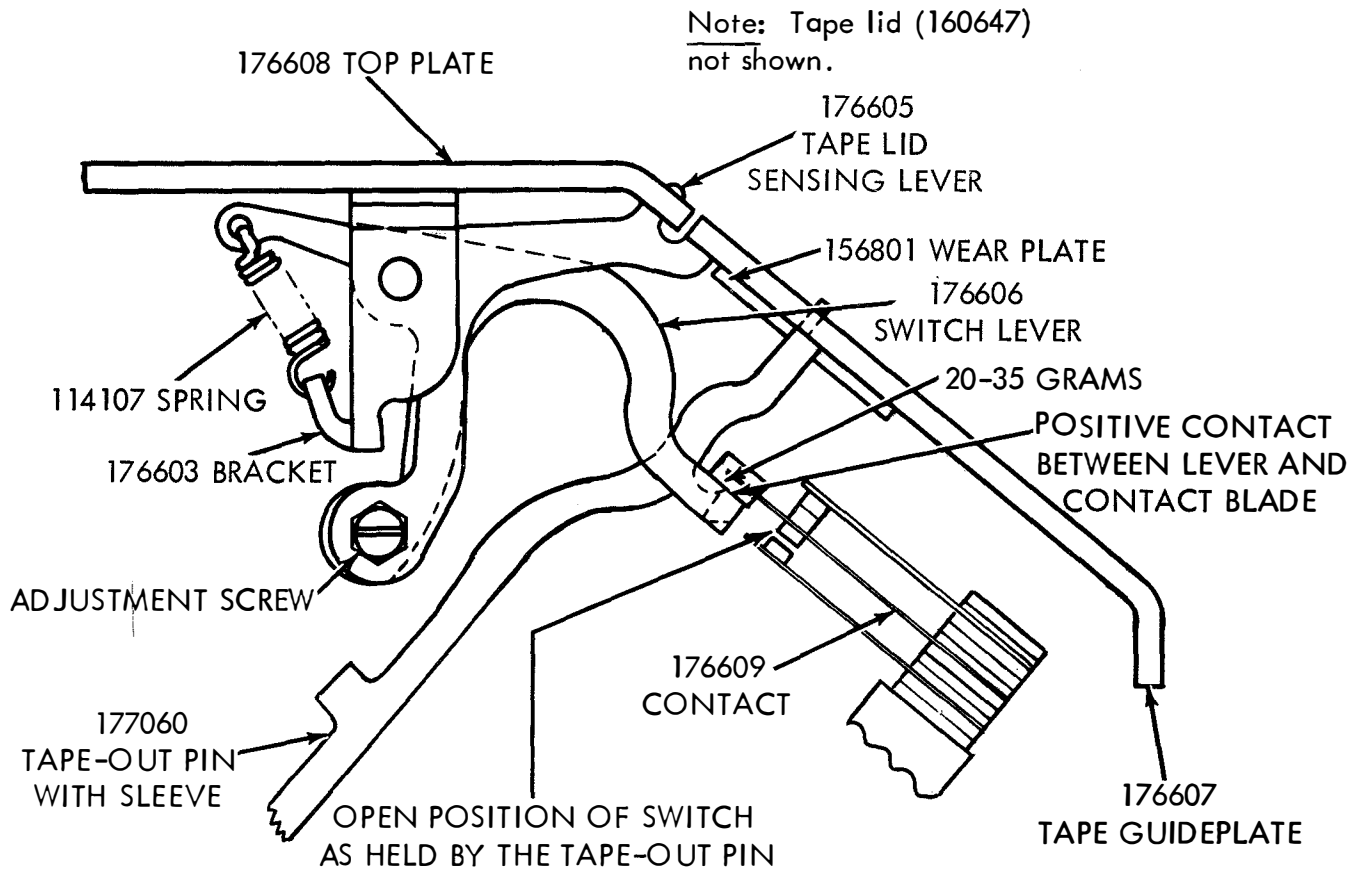

Figure 2
3.05 Switch Lever Adjustment (Figure 2)
- (1) Loosen the tight-tape arm with hub adjusting screw and position its pry point approximately midway between the two pry points on the contact operating arm. Tighten screw. Loosen the contact assembly bracket mounting screws friction tight and position the contact assembly so that when a 0.045 inch gauge is placed between the tight-tape arm bail and the tape guideplate, the contacts are not open. The contacts should open, however, when a 0.075 inch gauge is inserted. Check the contacts visually. Tighten the bracket mounting screws and recheck.
- (2) Loosen the two screws which secure the contact "pile-up" to the contact assembly bracket and position the assembly until the requirement is met. Tighten the screws.
3.07 Tape Lid Sensing Lever Spring (Figure 2)